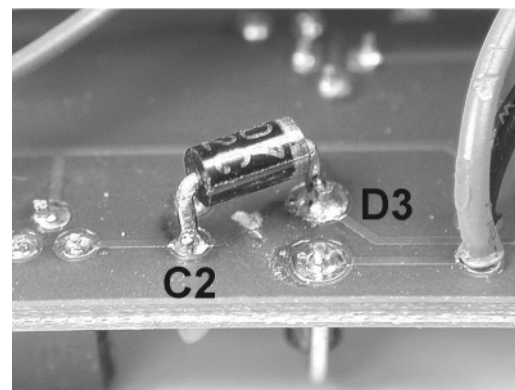

Figure 4
- B) Cut the leads so they extend no less than 1/16" (1.6mm), but no more than 1/8" (3.2mm), past the bottom of the diode body (see Figure 4).
- E) Referring to figure 4, place the diode with its cathode (banded) end on the solder pad for D3 and its anode (UNbanded) end on the solder pad for C2. HOLD the